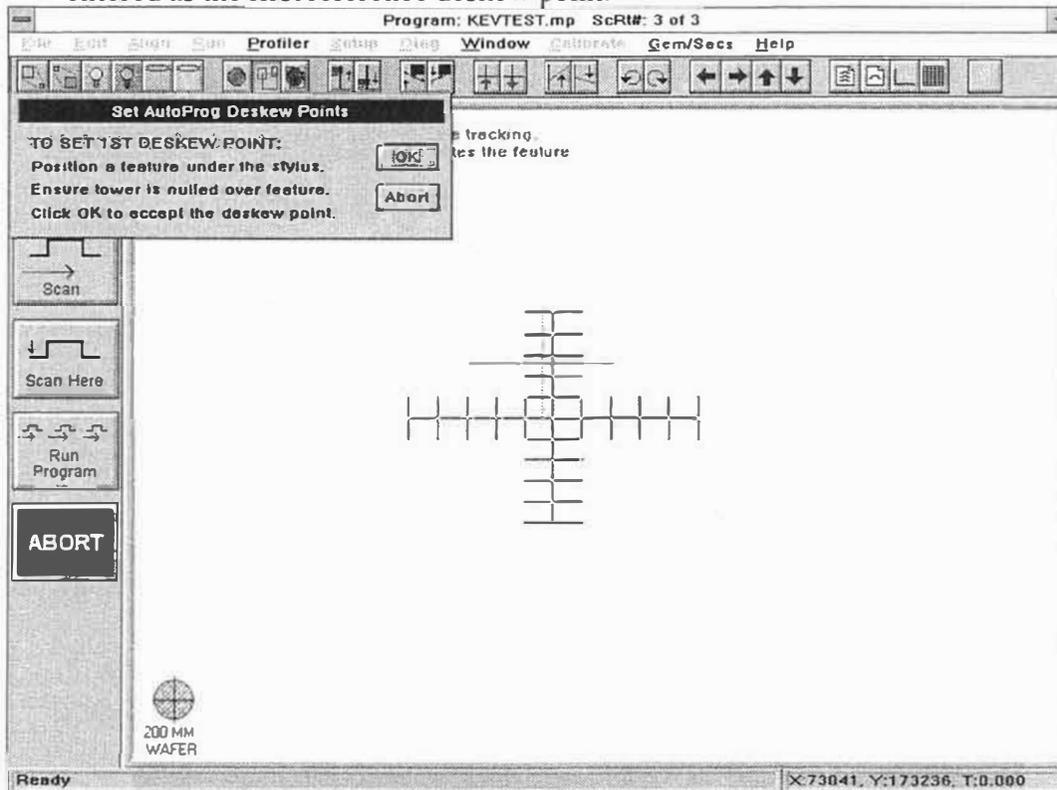

Figure 5-16. Setting the First Reference Deskew Point
2. Click-on the software reticule to activate the stage. Roll the pointing device until the software reticule is lined up with the upper right corner of the calibration standard pattern as shown in Figure 5-16.